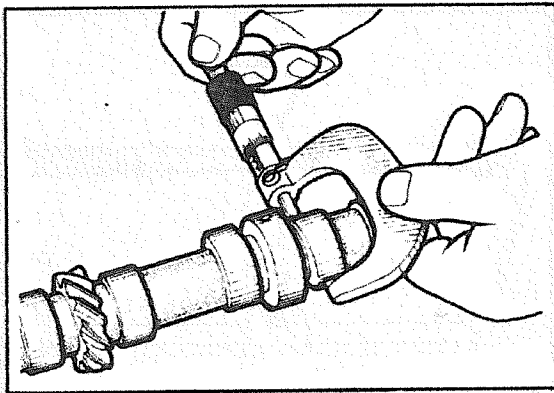

Fig. 33 Checking the Cam Height
4. Check each cam for damage. If the cam profile is severely damaged or worn, replace the camshaft. (Fig. 33)